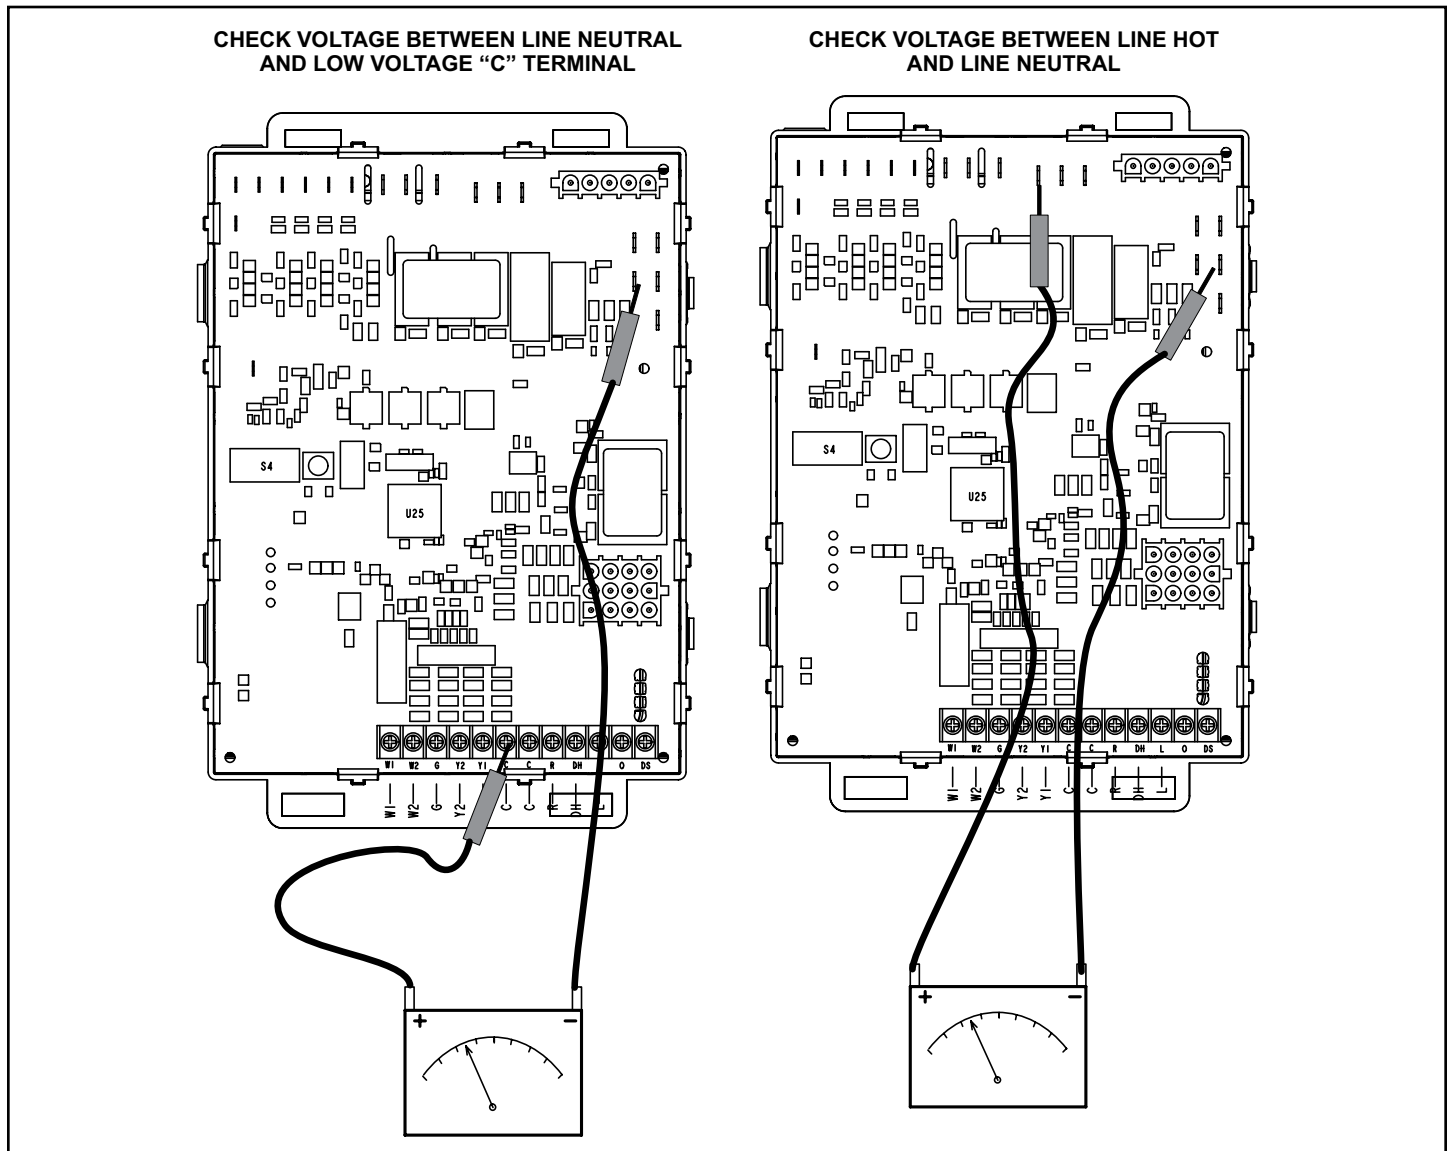

Figure 16.
1. Measure the AC voltage between Line Neutral (spade terminals) and "C" terminal (low voltage terminal block) on the integrated control. See Figure 16. A wide variation in the voltage between Line Neutral and "C" as a function of load indicates a poor or partial ground. Compare the readings to Table 14. If the readings exceed the maximum shown in Table 14, make repairs before operating the furnace.
2. In addition, measure the AC voltage from Line Hot to Line Neutral (spade terminals) on the integrated control. See Figure 16. This voltage should be in the range of 97 to 132 Vac.